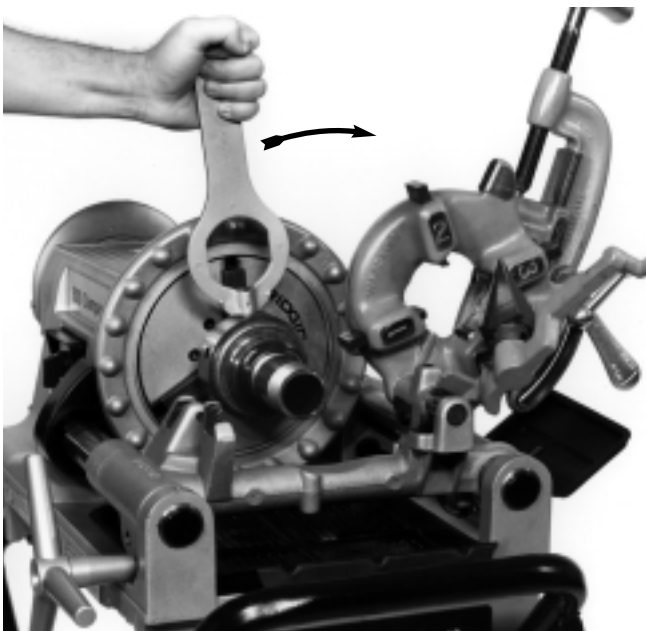

Figure 18 – Installing Unfinished Nipple and Releasing Finished Nipple With Wrench
6. Insert pin on end of wrench (Figure 18) into one of holes in nipple chuck release collar and turn. Remove threaded nipple by hand.